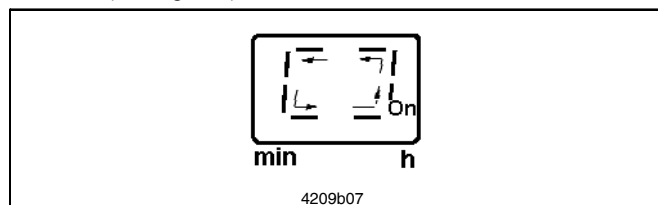

Fig. 9 Rotating segmented display during pressure relief (counterclockwise)
- For pressure relief of the single-line system the pump motor moves counterclockwise. In the display of the membrane keypad there appears a segment moving counterclockwise (fig. 9).